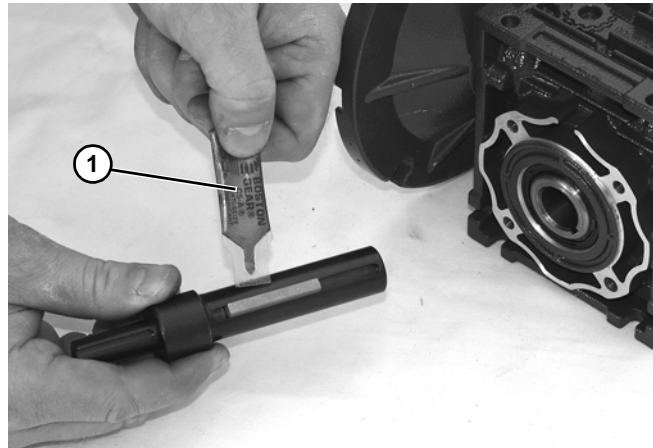

Figure 32
5. Apply anti-seize (Figure 32, item 1) to shaft.